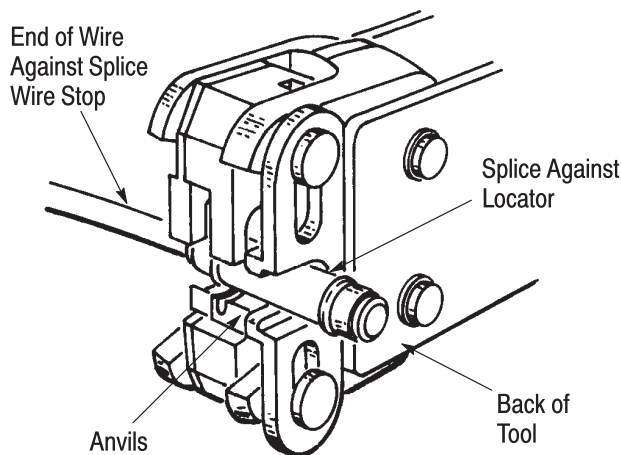

Figure 3
3. Insert the splice into the crimping chamber until it butts against the locator with one end resting on the anvils as shown in Figure 3.